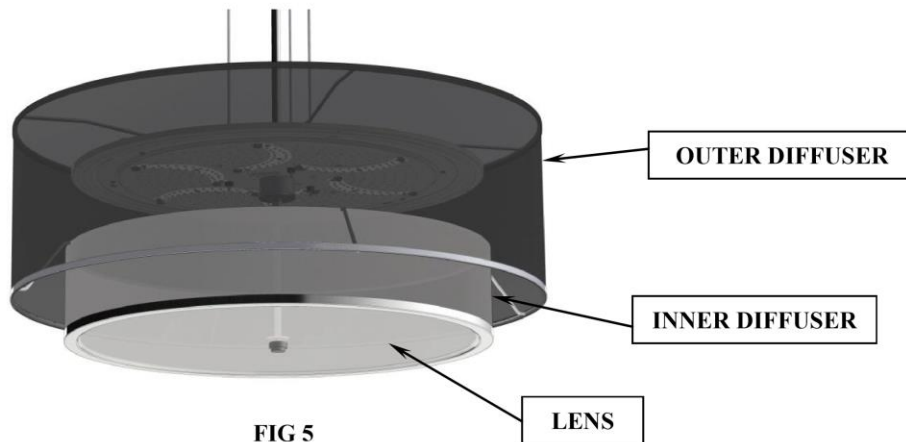

FIG 5
- C. Install the metal trim ring (23) to the inner diffuser's wire form and set the plastic LENS (24) into the trim ring. Insert the LENS into the long nipple (20) through the center hole. Thread the finial (25) onto the end of the nipple and secure, completing the installation as shown in Fig 5.